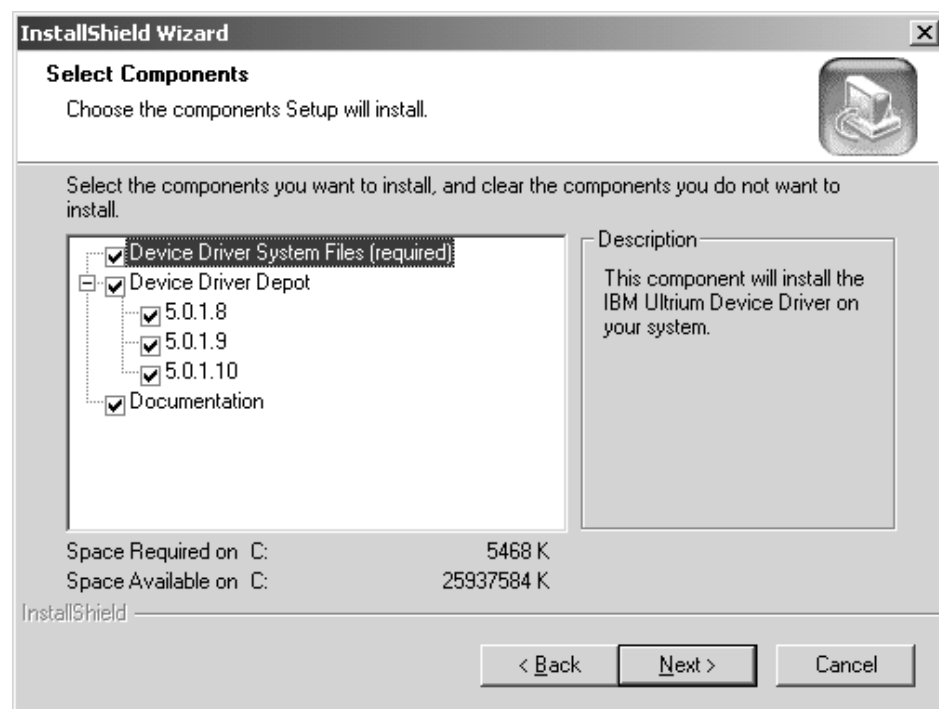

Figure 24. Select Components Menu
- c. If you select **custom** installation, the program will allow you to select the components to install. See Figure 24.